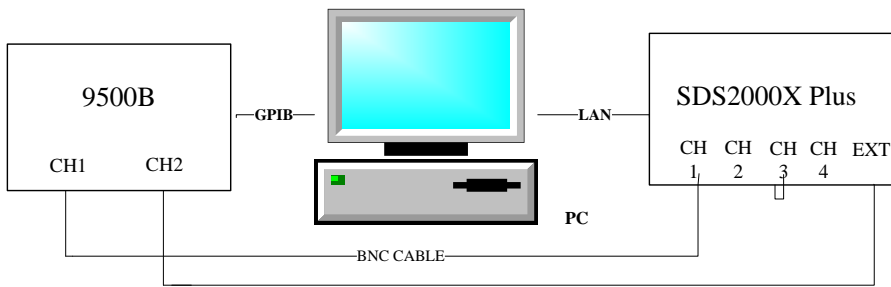

Figure 11 Connecting test instruments for Ext Trigger Delay\ Ext Trigger Level
1. Connect selected analog channel and external channel of the oscilloscope to the 9500B with active heads (CH1/CH2) shown as in Figure 11.